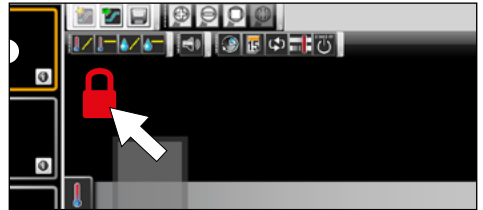

Fig. 12
- Once a program has a digital signature (see page 53), it cannot be edited. In this case, a red lock icon will be shown on the top left corner of the editor window (Fig. 12). However, it is possible to add more signatures.